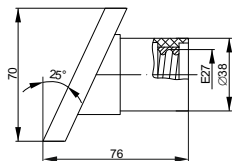

Figure 1 – Pkb27-04-K31
2.3 Overall dimensions of lamp sockets and adapters are shown in the figures 1–27.